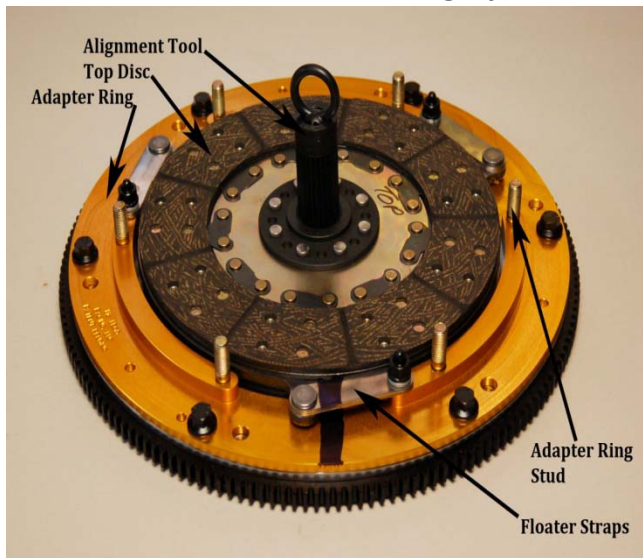

Figure 5
- 6) *4.6L and 5.4L Ford Modular engines require the installation of the supplied dowel pins (3) into the factory flywheel. GM LS engines require the installation of 2 of the supplied dowel pins into the factory flywheel.* Place adapter ring on flywheel, with the floater attached, using OEM pressure plate bolts. **(Some kits are supplied with new bolts for attaching adapter ring. In these cases use these bolts as they provide necessary clearance.) (Do not use Loctite!)** Do not add any washers to any locations if they were not present with the McLeod clutch assembly! Torque these bolts to factory specs. Note: If the floater was removed from the adapter ring re-torque all 5/16” nuts to 25 ft/lbs.
- 8) Install the top disc using the alignment tool and be certain it fully engages the pilot bearing to correctly center the discs. Figure 5